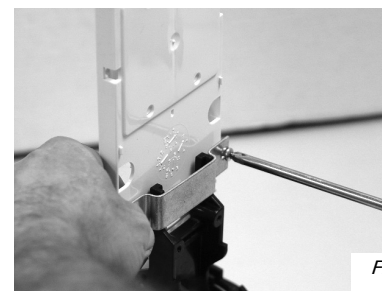

Fig. 6
3. Install the tray bracket under the bottom tray with the two supplied screws. Use the shiny, bright-finish screws; the larger, duller screws are for use with other closures. See Figure 6.